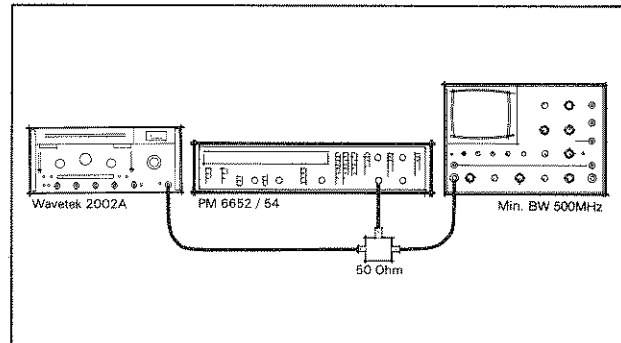

Fig. 8.1 Measuring set up.
- Connect the units according to fig. 8.1.